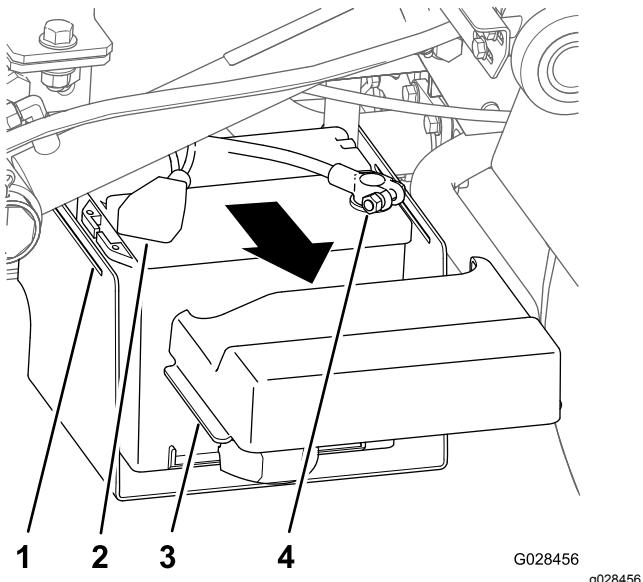

Figure 22
1. Squeeze the sides of the battery cover to release the tabs from the slots in the battery base, and remove the battery cover from the battery base (Figure 22).
2. Slide the cover back and remove the negative battery terminal from the battery (Figure 22).
3. Remove the positive battery terminal from the battery (Figure 22).